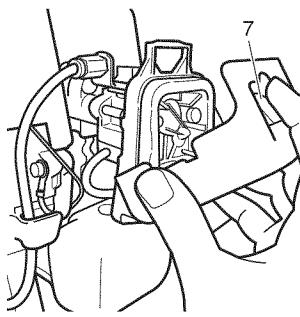

Fig. 4
Press the upper tab (7) and open the air cleaner cover. (Fig. 4)